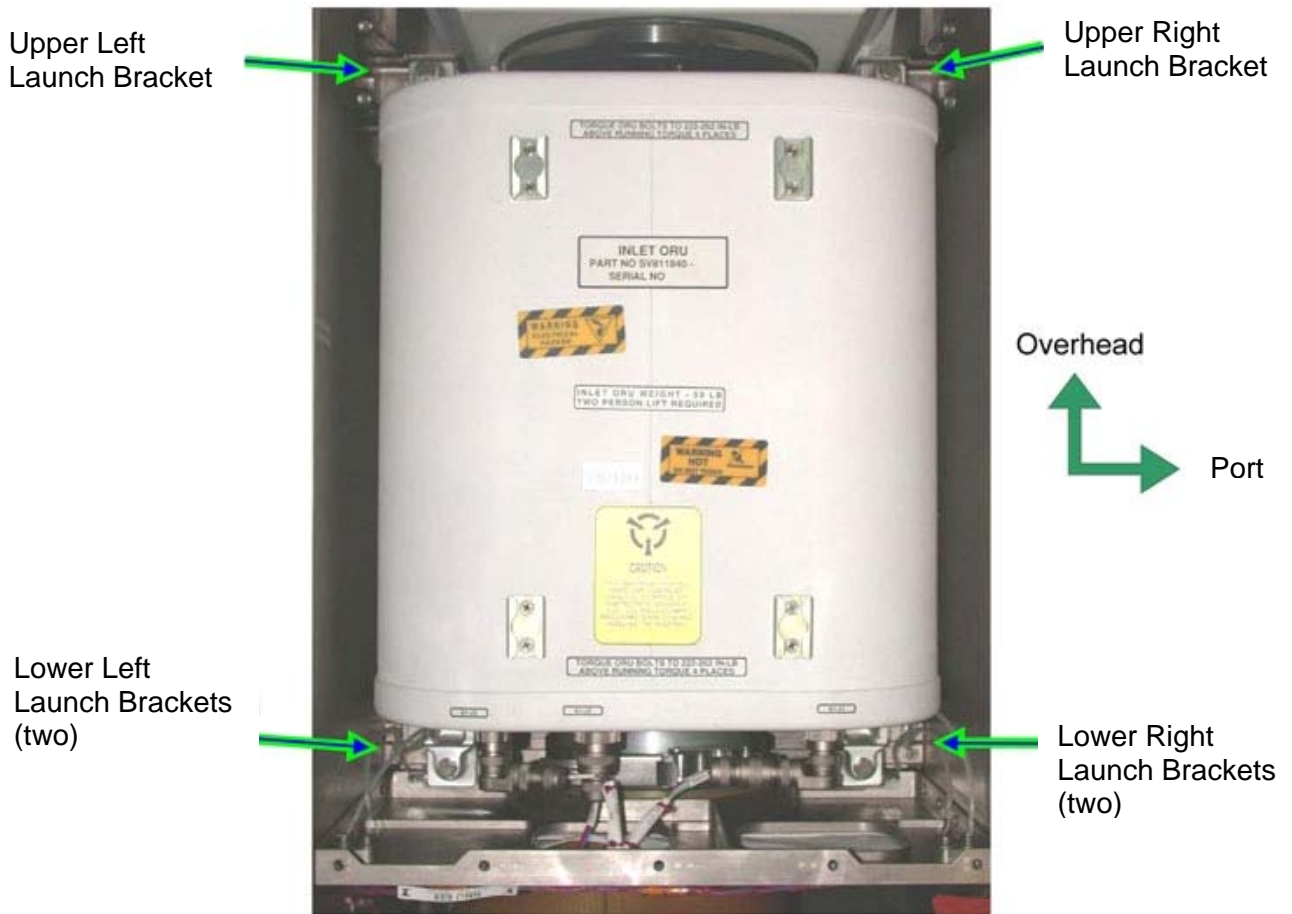

Figure 1. - View of Node 3 CCAA Inlet ORU.
- 2.1 Unfasten CCAA Upper Left AVM Launch Bracket fasteners "A" and "B" (Ratchet, 1/4" Drive; 3/16" Hex Head, 1/4" Drive). Refer to Figures 1, 2.
- 2.2 Unfasten CCAA Upper Left AVM Launch Bracket fastener "C" (Ratchet, 1/4" Drive; 3/16" Hex Head, 1/4" Drive). Refer to Figures 1, 2.
- 2.3 Unfasten CCAA Upper Left AVM Launch Bracket fastener "D" (Ratchet, 1/4" Drive; Univ Joint; 3/16" Hex Head, 1/4" Drive). Refer to Figures 1, 2.
- 2.4 Unfasten CCAA Upper Left AVM Launch Bracket fasteners (three) in Group "E" (Ratchet, 1/4" Drive; 3/16" Hex Head, 1/4" Drive; 10" Ext, 1/4" Drive). Refer to Figures 1, 2.
- 2.6 Unfasten CCAA Upper Left AVM Launch Bracket Tether fastener (one) (Ratchet, 1/4" Drive; 5/32" Hex Head, 1/4" Drive). Refer to Figures 1, 2. Stow Launch Bracket.